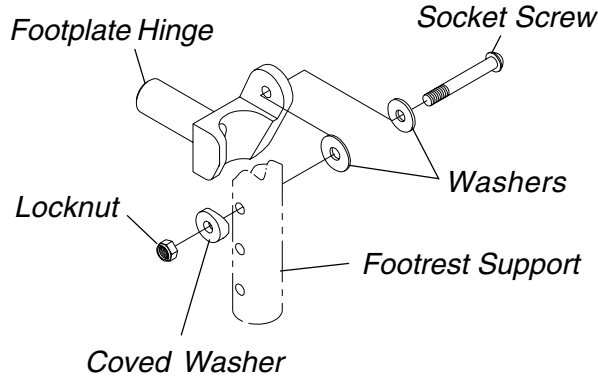

FIGURE 3 - INSTALLING HINGE
Installing Hinge (FIGURE 3)
2. Position the hardware on the footrest support as shown in FIGURE 3.